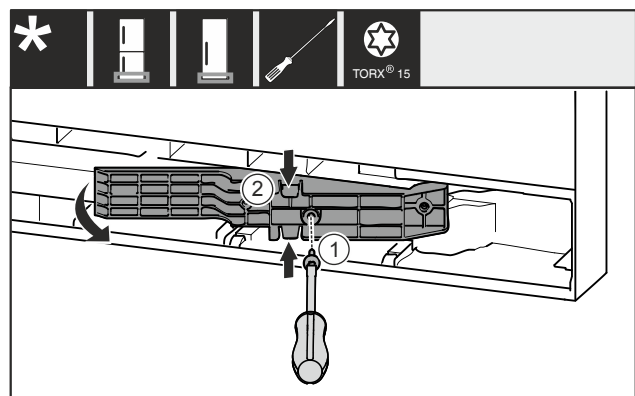

Fig. 22 *
- Remove the screw Fig. 22 (1)*
- Gently press the adapter piece Fig. 22 (2) together at the top and bottom and pull it out.*